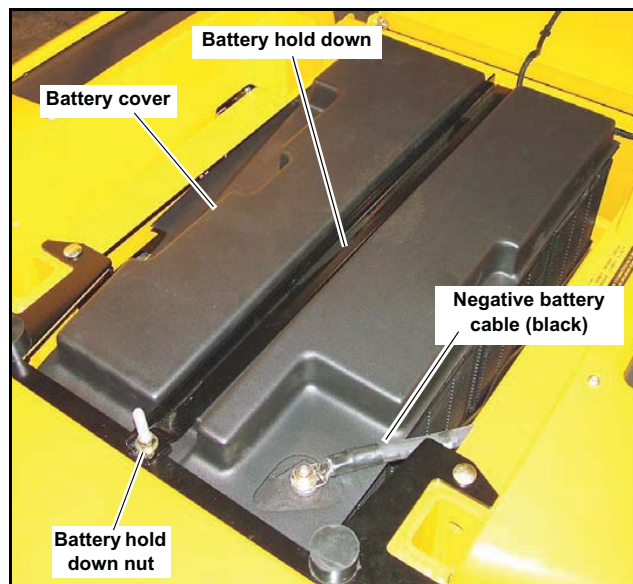

Fig. 5-7
5. Remove the battery hold down and battery cover. Fig. 5-7